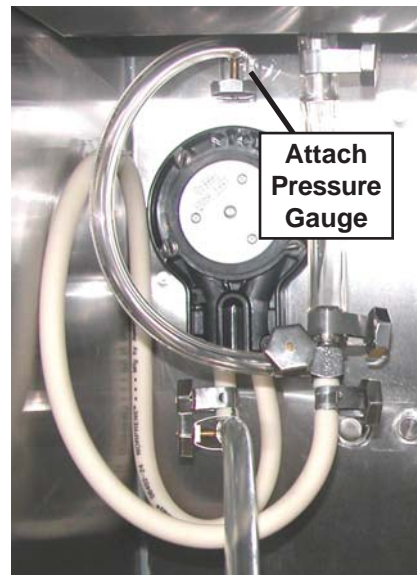

Figure 6-11 Attaching Gauge to Pump
3. Connect a gauge between the 1/4" ID tubing and pump outlet in the cab (Refer to Figure 6-11).